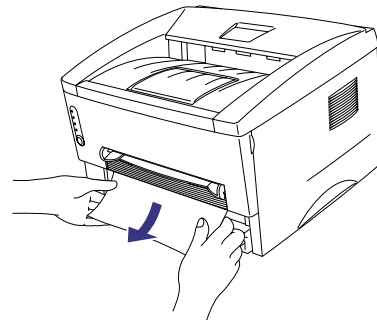

Fig. 6-2
- (1) Remove the paper cassette completely from the printer.
- (2) Pull any jammed paper up and out of the printer. (Fig. 6-2)
- (3) Open the front cover.